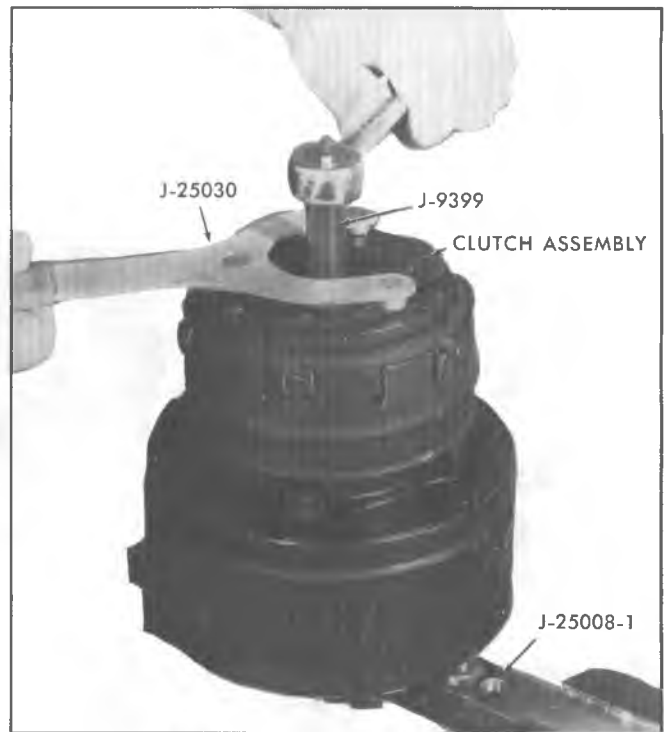

Fig. 70—Removing Shaft Locknut
2. Keeping clutch hub from turning with clutch hub holding tool J-25030, remove and discard shaft nut using Thin Wall Socket J-9399 (Fig. 70).